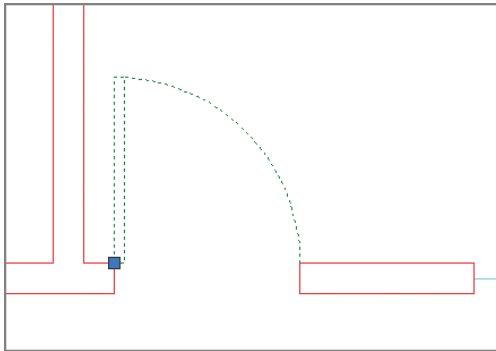

FIGURE 7.7 The door has only one grip because it is a block reference.
8. Select the door, and observe that it has only one grip because it is now a block reference (see Figure 7.7). Press Esc to deselect.